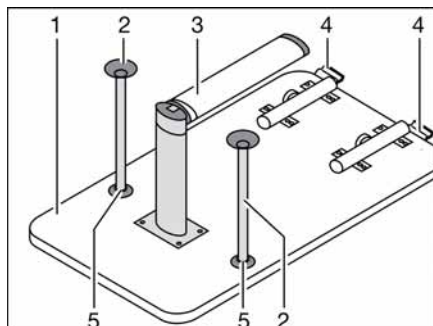

Fig. 90 Bed foundation
- Lift the front of the table-top (Fig. 90,1) by approx. 45°.
- Fold the lower part of the fold-out leg (Fig. 90,3) by 90°. Depending on the model, pull the lower part of the fold-out leg down or push the release knob.
- Press the release knob on the lock (Fig. 90,4).
- Depending on the model, insert both additional support legs (Fig. 90,2) into the holders (Fig. 90,5) on the bottom side of the table.